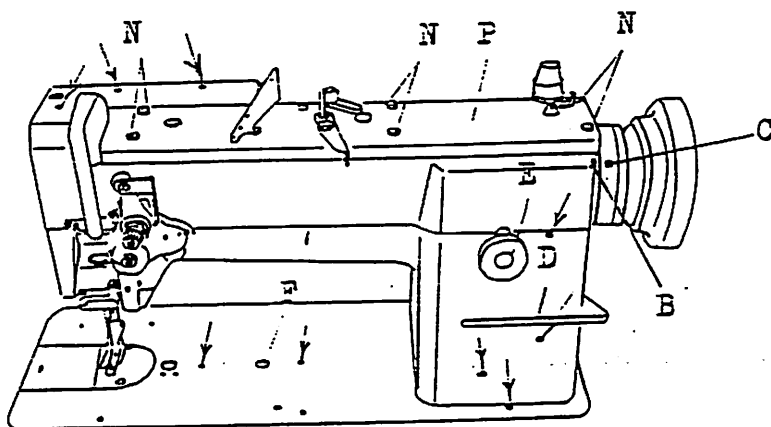

Fig. 1
When starting the machine initially and after kept away for a long time without using at all, oil sufficiently to respective parts and each of the place indicated by by allows in Fig 1,2,3 & 4.
1. Align the arm-mark(B.Fig.1) with the pulley-mark (C.Fig.1).
To reverse stitching, press down the lever(D, Fig 1) as far as it will go.
Turn the stitch length adjustable dial(E, Fig 1), by pressing down the lever(D, Fig 1) slightly, and then set the desired dial number just above.
1. Depress the button(F, Fig 1) in the bed plate of the machine and turning the machine pulley strongly, a safety clutch will be disengaged.
4. After completion of the adjustment, depress the button(F, Fig 1) in the bed plate of the machine, turning the machine pulley by your hand, a safety clutch mechanism will normally be re-engaged.